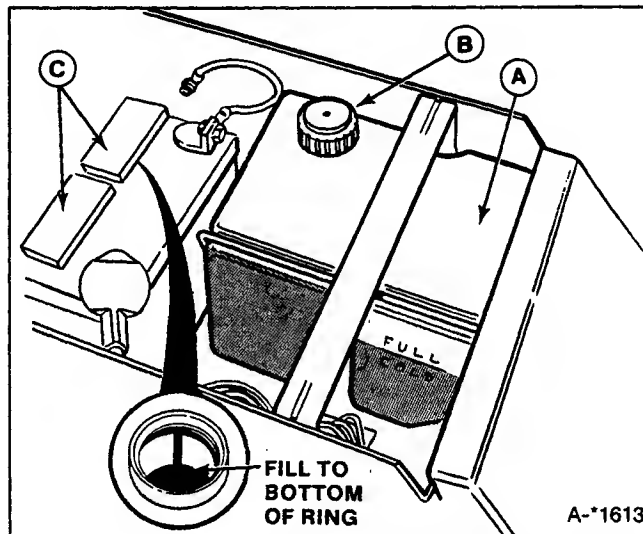

Figure 17. Fluid Level & Battery Check
- Inspect the fluid level in the reservoir (A, figure 17). Fluid should be even with the "FULL" mark when tractor is cool.
- Wipe any dirt or debris around filler cap (B) before removing cap. Add SAE 30W premium grade non-detergent oil as necessary.
- Remove the filler caps (C), one at a time.
- Fluid must be even with split ring full mark (figure 17). If not, add distilled water.